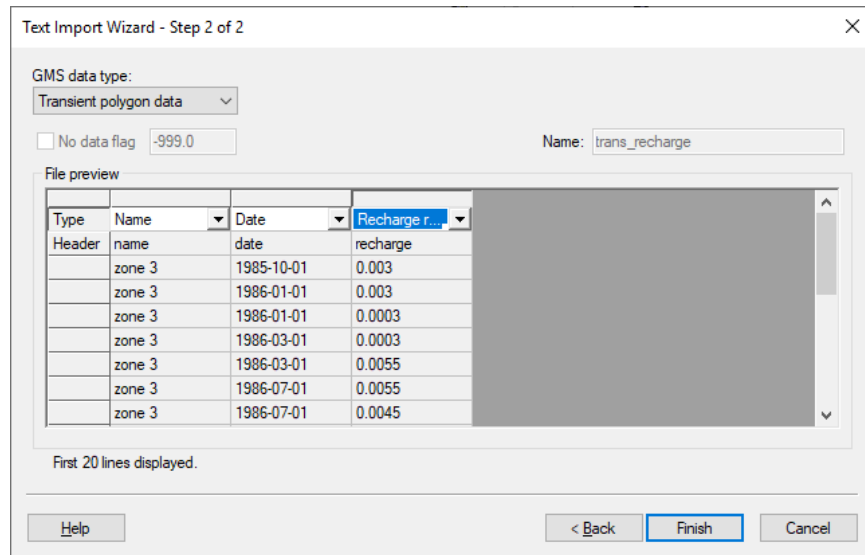

Figure 5 Step 2 of 2 page of the Text Import Wizard dialog
5. Below the *File import options* section, turn on *Heading row* and click the **Next >** button to go to the *Step 2 of 2* page of the *Text Import Wizard* dialog (Figure 5).